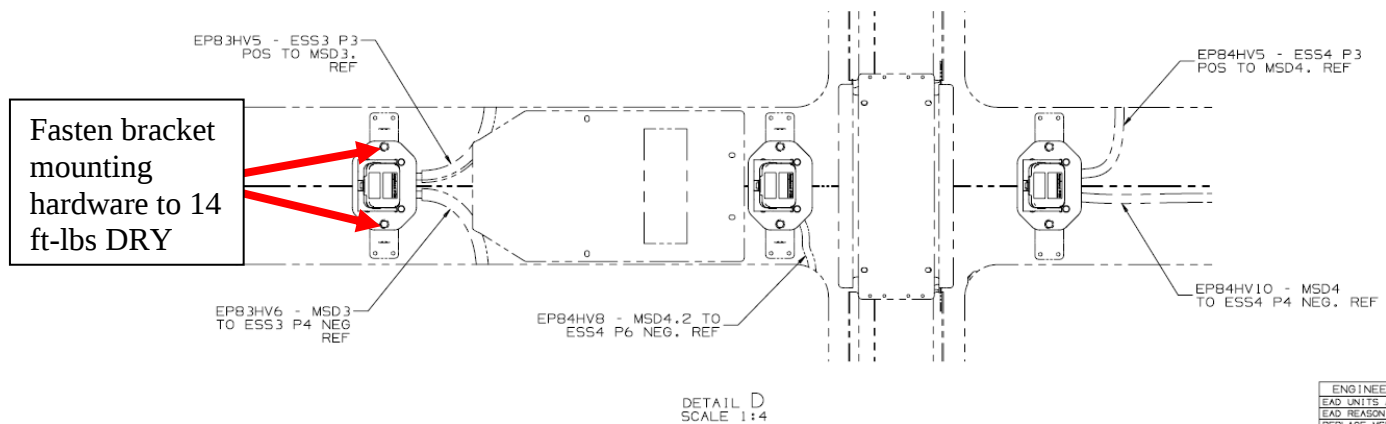

Figure 24: Front rooftop ESS (DETAIL D)
3.7 Install new MSD bench assembly onto rooftop ESSs x5. See figure 24, 25.